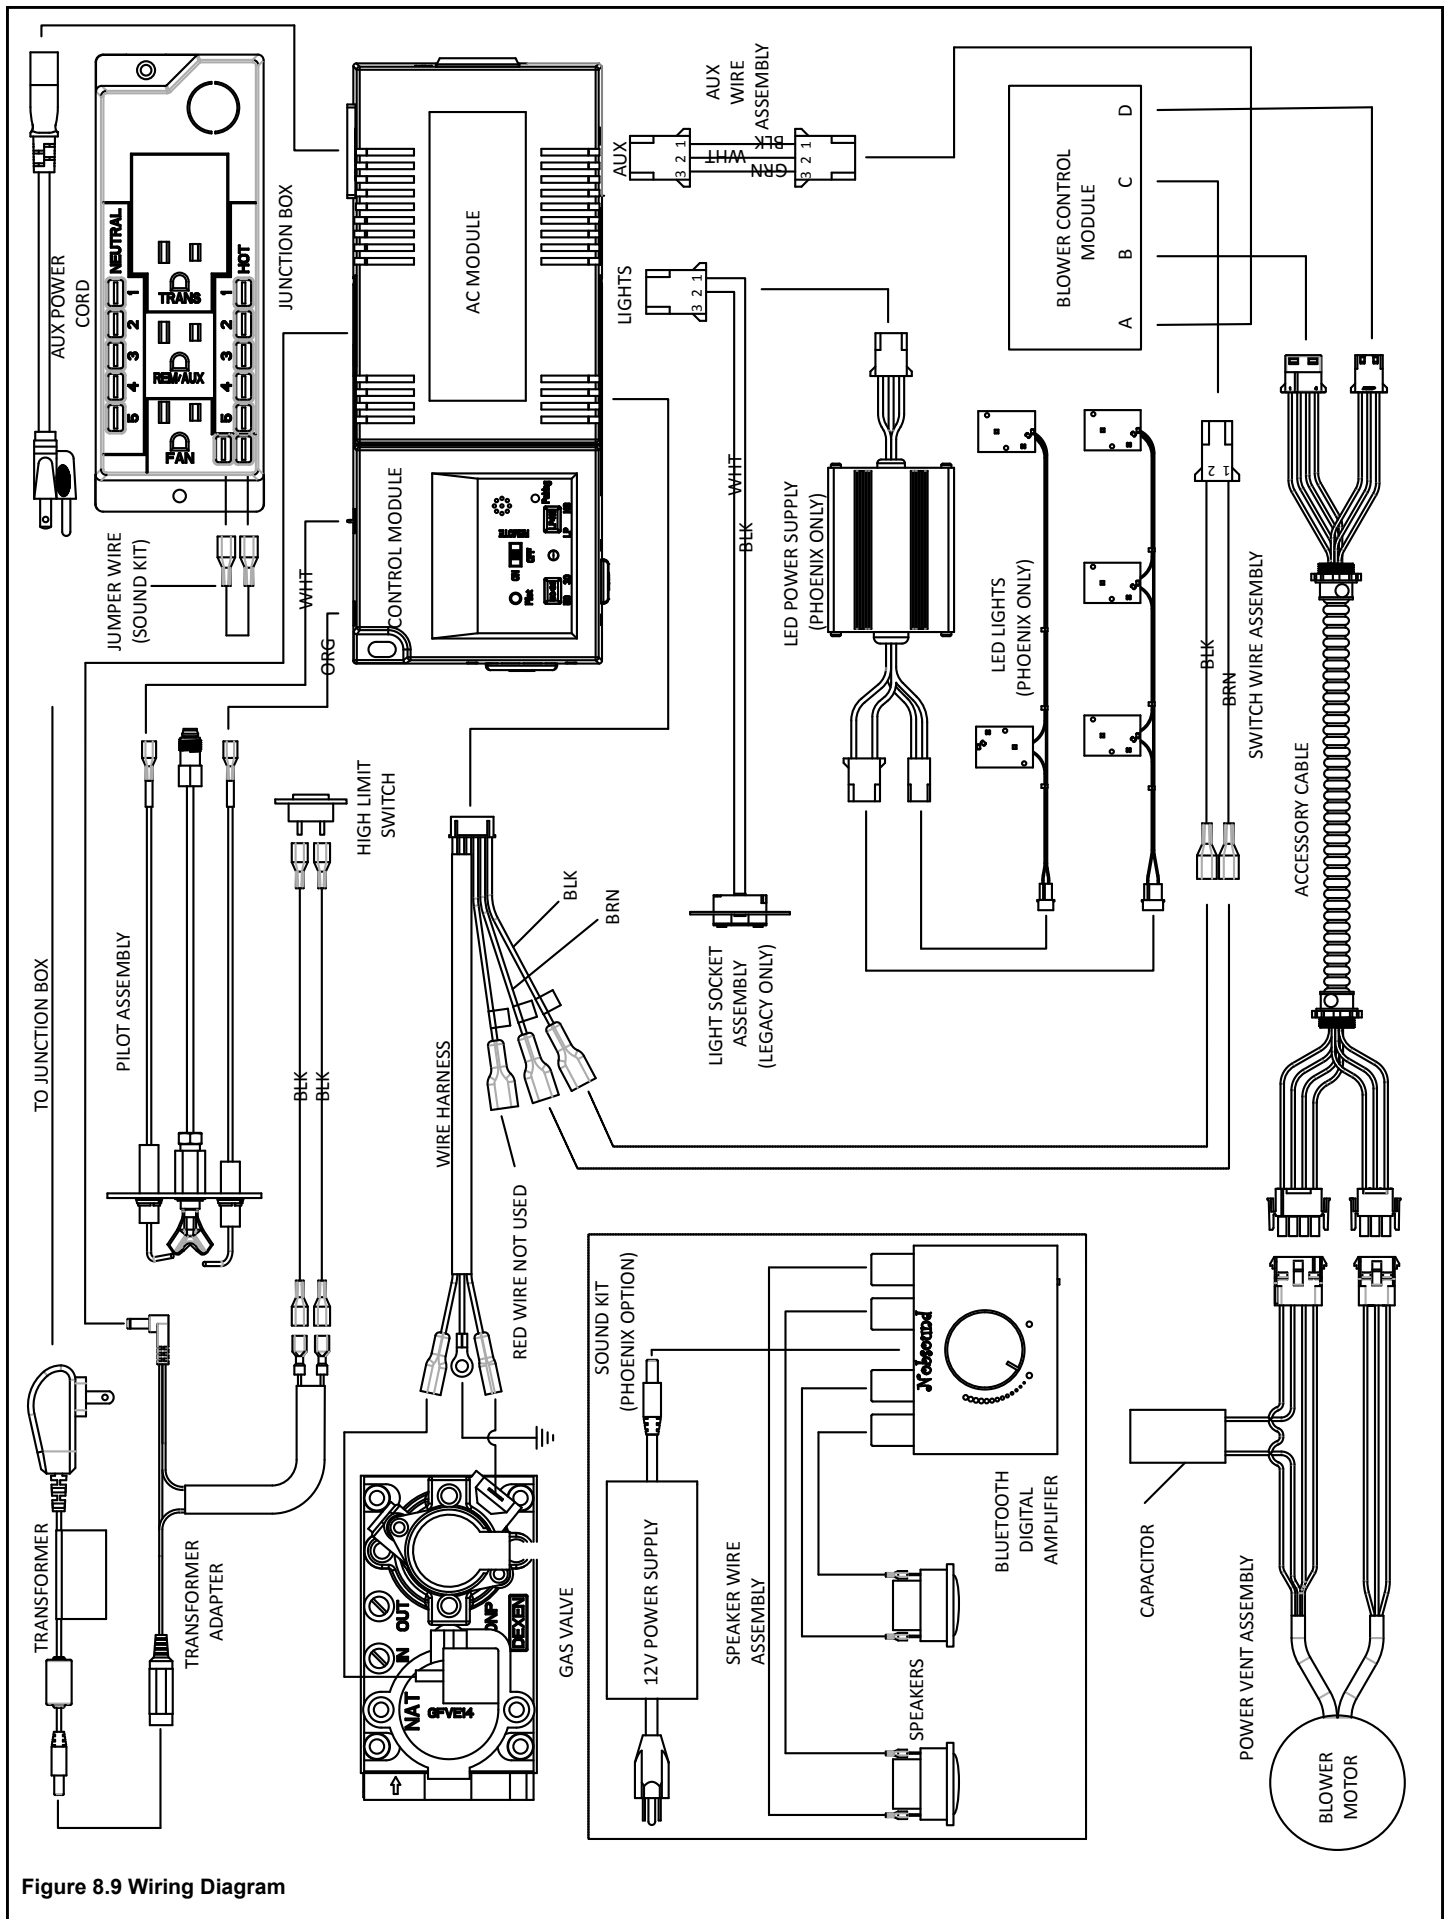

Figure 8.9 Wiring Diagram
- Refer to Figure 8.9 PHOENIX Wiring Diagram.